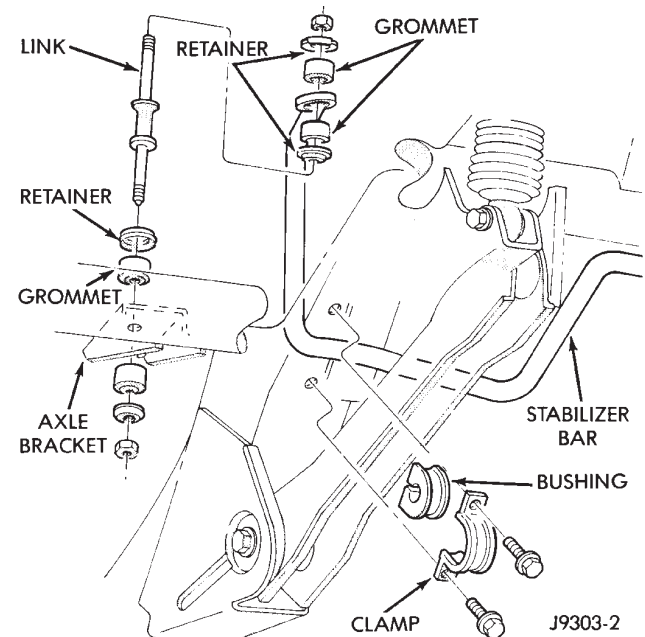

Fig. 2 Rear Stabilizer Bar
- (1) Raise and support the vehicle. Remove one wheel and tire.
- (2) Disconnect the stabilizer bar links from the axle brackets (Fig. 2).
- (3) Lower the exhaust by disconnecting the muffler and tail pipe hangers.
- (4) Disconnect the stabilizer bar from the links.
- (5) Disconnect the stabilizer bar clamps from the frame rails. Remove the stabilizer bar.
(1) Position the stabilizer bar on the frame rail and install the clamps and bolts. Ensure the bar is centered with equal spacing on both sides. Tighten the bolts to 54 N•m (40 ft. lbs.).
(2) Install the links and grommets onto the stabilizer bar and axle brackets (Fig. 2). Install the nuts and tighten to 36 N•m (27 ft. lbs.) torque.
(3) Connect the muffler and tail pipe to their hangers.
(4) Install the wheel and tire.